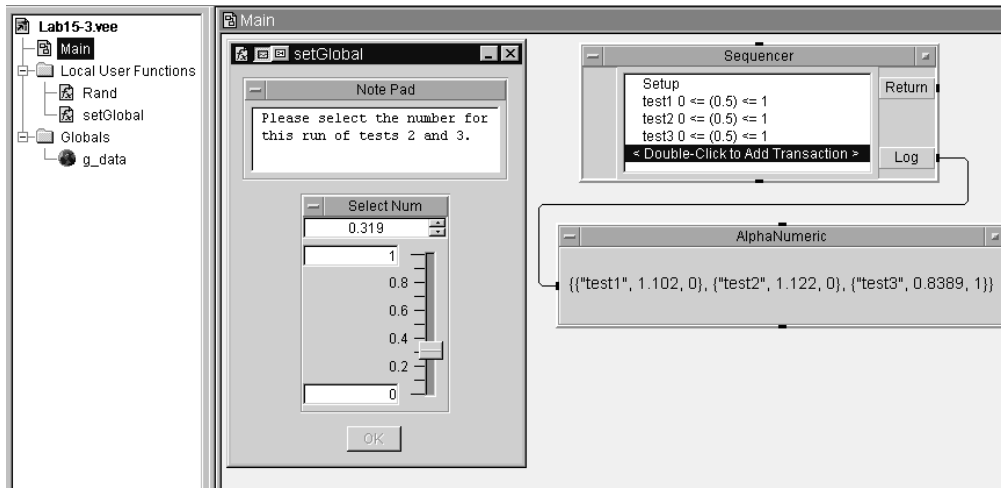

Figure 15.10. Passing data using a global variable
- ◇ 29. Run your saved program several times and observe the AlphaNumeric display; verify that each test agrees with the test constraints for pass/fail. See Figure 15.10; there will be three tests showing on your AlphaNumeric display.